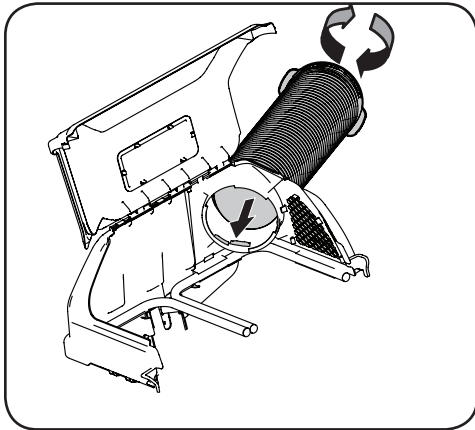

Figure 4-29
- Thread the upper end of the chute tube securely into the upper chute support. There are two tabs on the lower inside part of the upper chute support to allow for secure threading. See Figure 4-29.